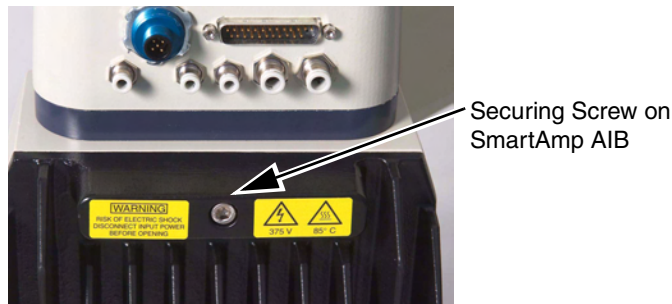

Figure 8-2. Securing Screw on SmartAmp AIB Chassis
9. Using a 5 mm Allen key, carefully unscrew the chassis securing screw. See Figure 8-2. Note that the screw does not need to be completely removed in order to remove the chassis, as this screw is captured on the chassis heat sink.
9. Once the chassis is in place, use a 5 mm Allen key to tighten the chassis securing screw. See Figure 8-2 on page 151 for details.
7. Using a 5mm Allen key, carefully unscrew the AIB chassis securing screw. See Figure 8-2 on page 151. Note that the screw does not need to be completely removed in order to remove the chassis, as this screw is captured on the chassis heat sink.